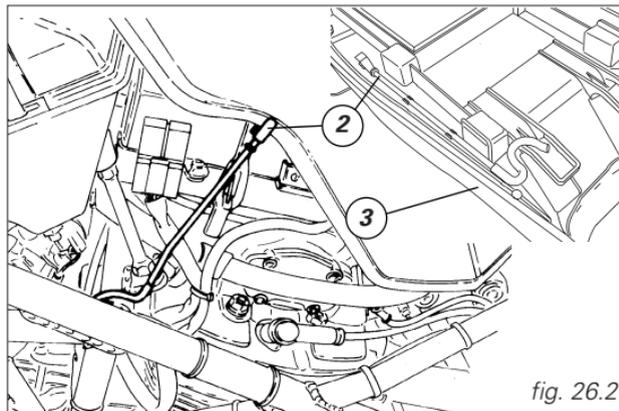

fig. 26.2
Remove the seat (page 26) and lift the hook (1). Lift the tank and unhook the service rod (2, fig. 26.2) from its seat under the seat. Place the tank onto the rod. When you have finished, reverse the above procedure to refit.